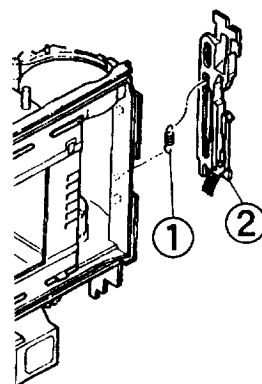

Fig39
- (18) Set the BACK DOOR BUTTON (②) and fix the BACK DOOR BUTTON SPRING (①). (Fig. 39)